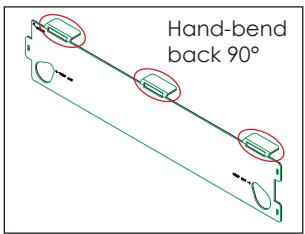

Figure 1: Hand-Bend Bracket Tabs
- a. Hand-bend the top three bracket tabs on the jigs (if not already bent). Refer to **Figure 1**.